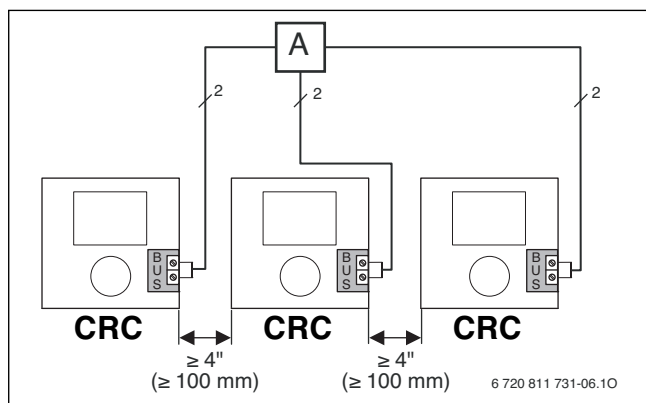
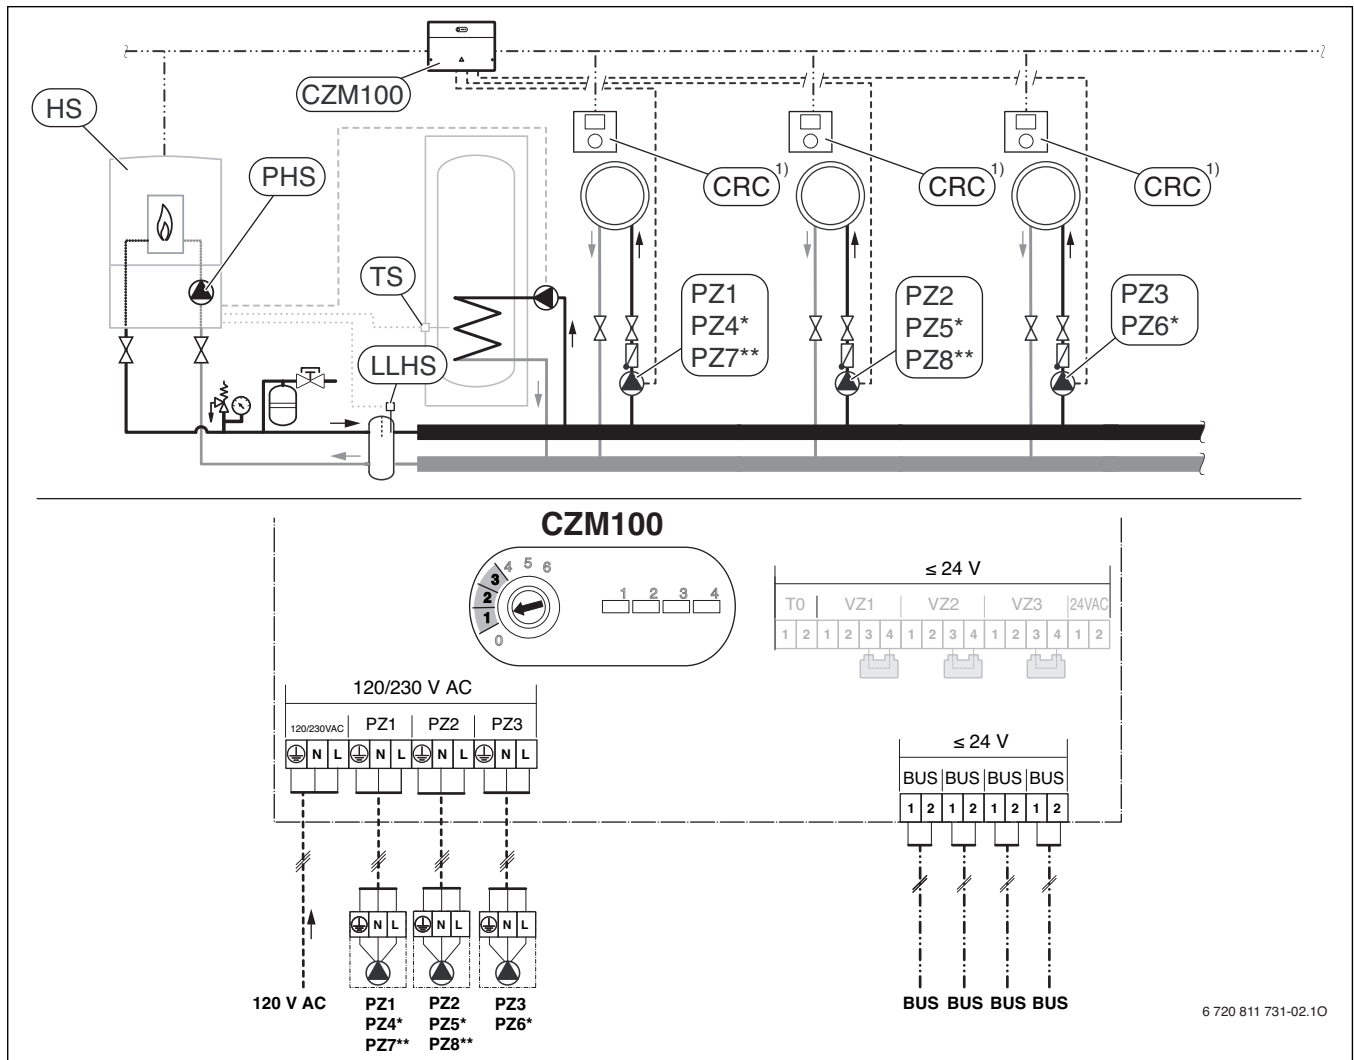

Fig. 10 Connecting several BUS users via a junction box
Fig. 13 Three heating zones with circulator pumps and a low loss header.
- ▶ Wire the CRC user interface via a junction box [A] in a star configuration (→ Fig. 10) or in series for BUS users with at least 2 BUS connections (→ Fig. 13, page 9).
5. Connect the BUS cable to the first BUS connector from the left (see → Fig. 13, page 9)